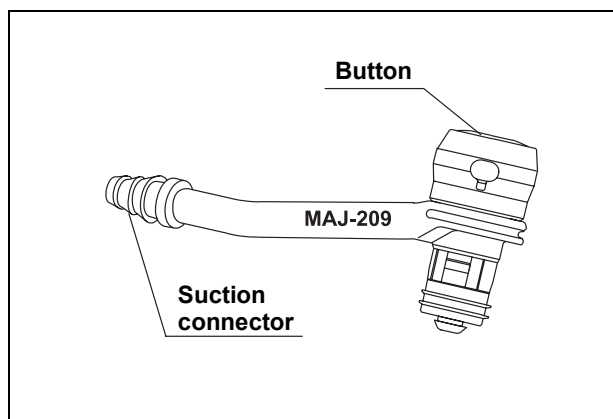

Figure 3.3
3. Inspect the suction valve for cracks or other damage (see Figure 3.3).